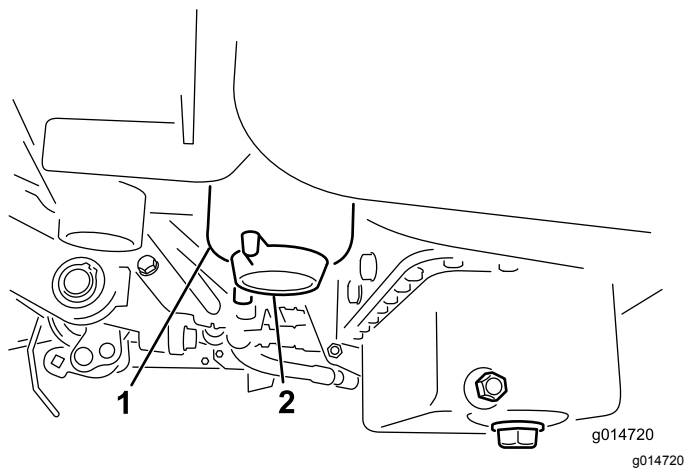

Figure 30
3. Open the drain plug on the fuel filter approximately one turn and drain any accumulated water (Figure 30).